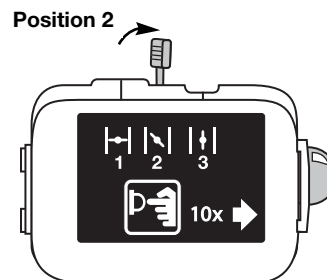

Fig. 9
7. Place the blue choke lever in **Position 2** (Fig. 9).